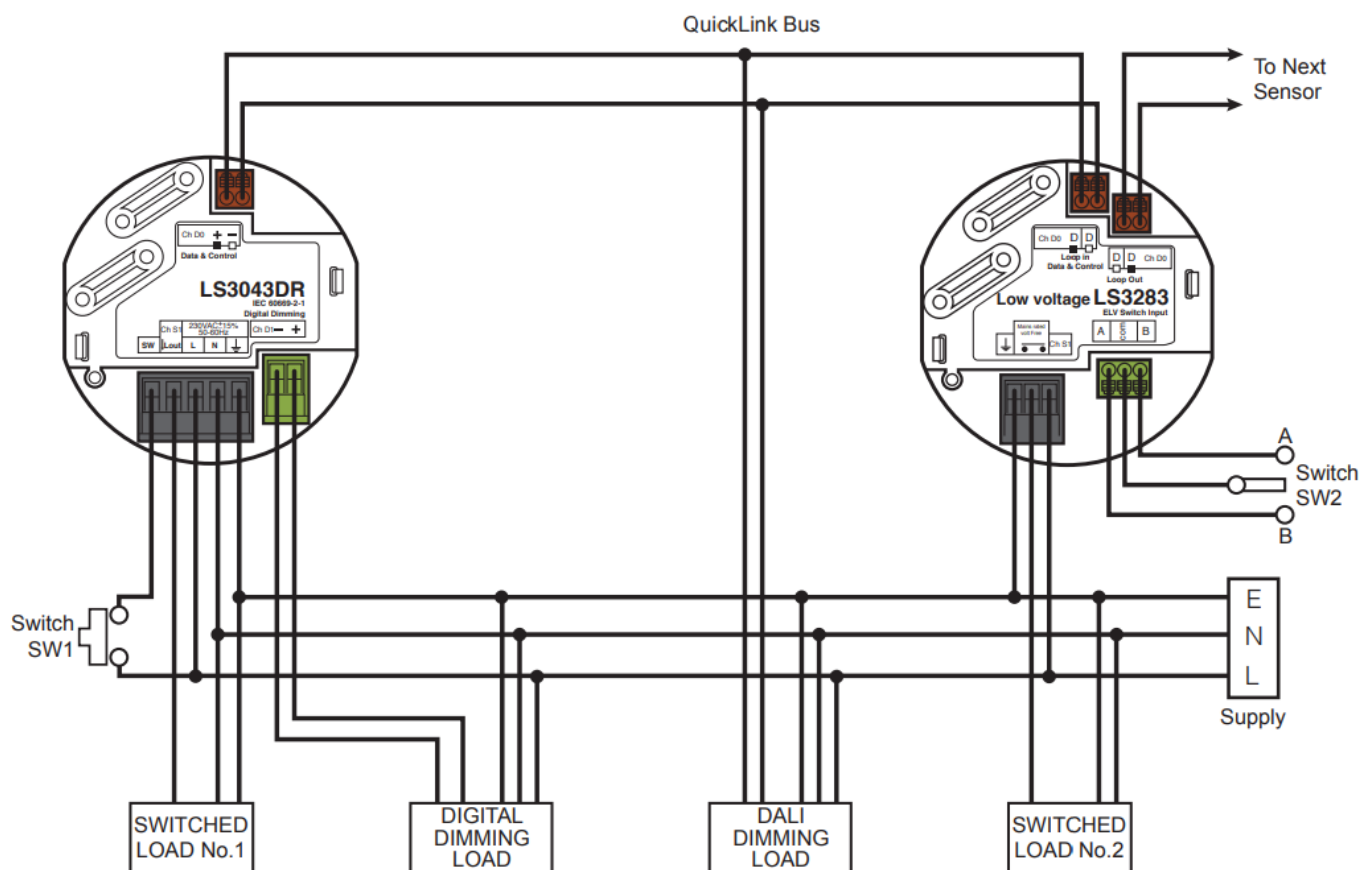

fig 4
- 8 QuickLink System \(fig 4\)
QuickLink System (fig 4)